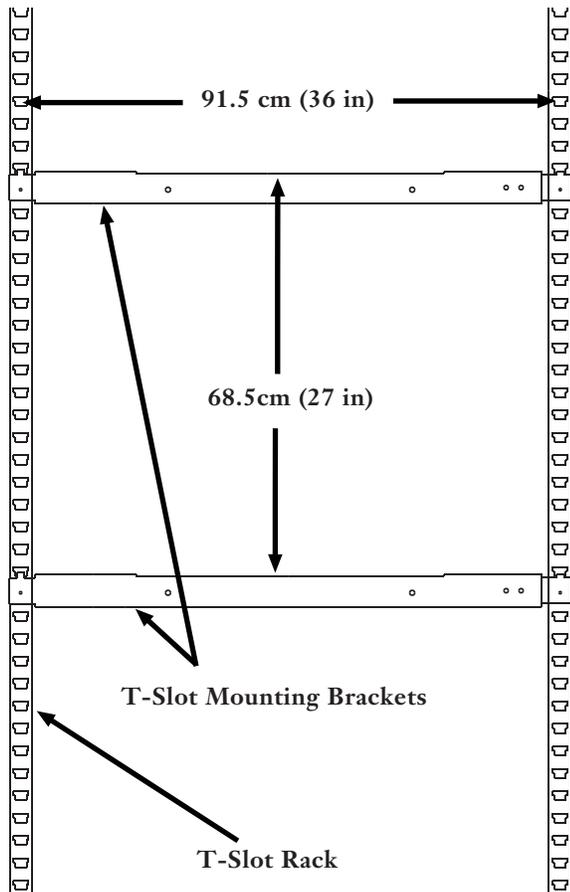

Figure 3
5.1 Hang T-slot mounting brackets to rack as shown in Figure 3.